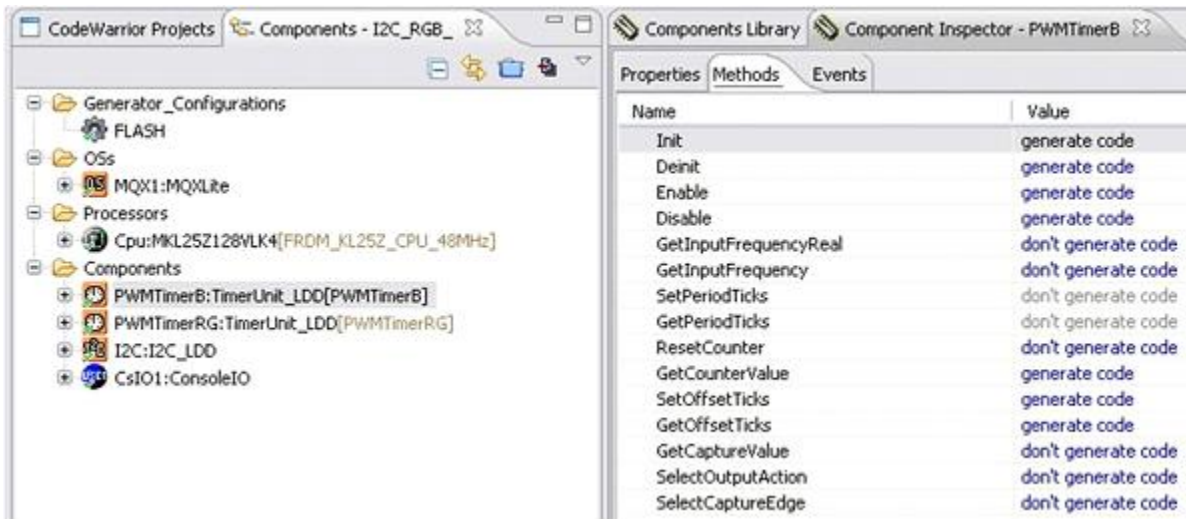

Figure 35. PWMTimerRG and the PWMTimerB methods creation definition
- For the TimerUnit_LDD components it is necessary to define the functions added by the auto-generated code. To do this, click in the Methods tab under the Component Inspector. These settings apply for the PWMTimerRG and the PWMTimerB. Shown is the correct configuration for the methods creation. See Figure 35.